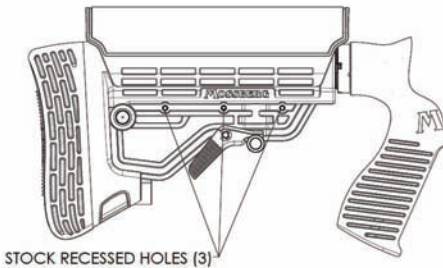
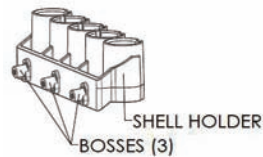

Fig. 31
Fig. 31a
To attach the shell holder on the stock, engage the three bosses (Fig. 31a) on the shell holder with the three mating recessed holes in the stock (Fig. 31). This will align the three screw holes in the shell holder with the through holes in the stock. Holding the shell holder against the stock, screw the (3) screws into the shell holder to hold it in place. Torque the screws to 12 in lbs (Figs. 31 and 32). When the shell holder is attached correctly it will not move. The shell holder is designed to be used for a left or right handed shooter. It can be attached to either side of the stock.